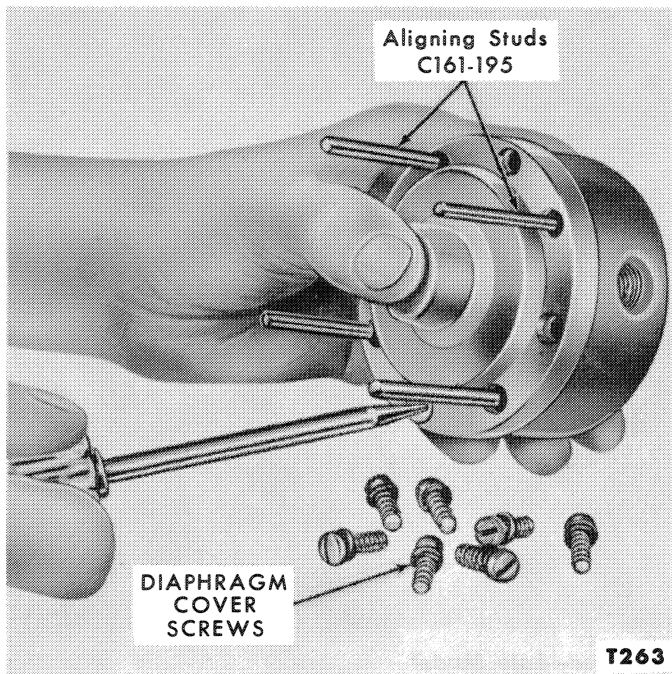

Figure 21—Removing Diaphragm Cover
- to the vaporizer body (13). Separate the coil from the body and discard "O" rings (2) and (6).
2. Remove every other one of the four diaphragm cover attaching screws (19). Install four Aligning Studs C161-195 as shown in Figure 21. Maintain pressure on the diaphragm cover and remove the four remaining screws.